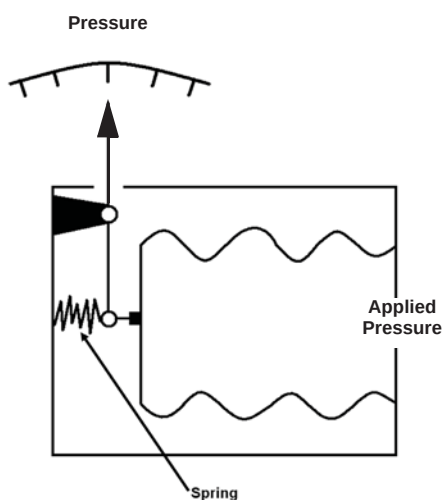

Figure 1.12: Bellows
*Capsules* and *bellows* are pleated, flexible chambers that expand when filled with material under pressure. The individual chambers of a capsule are sealed. Only the first chamber is actually in contact with process pressure. Bellows open inside (Figure 1.12).